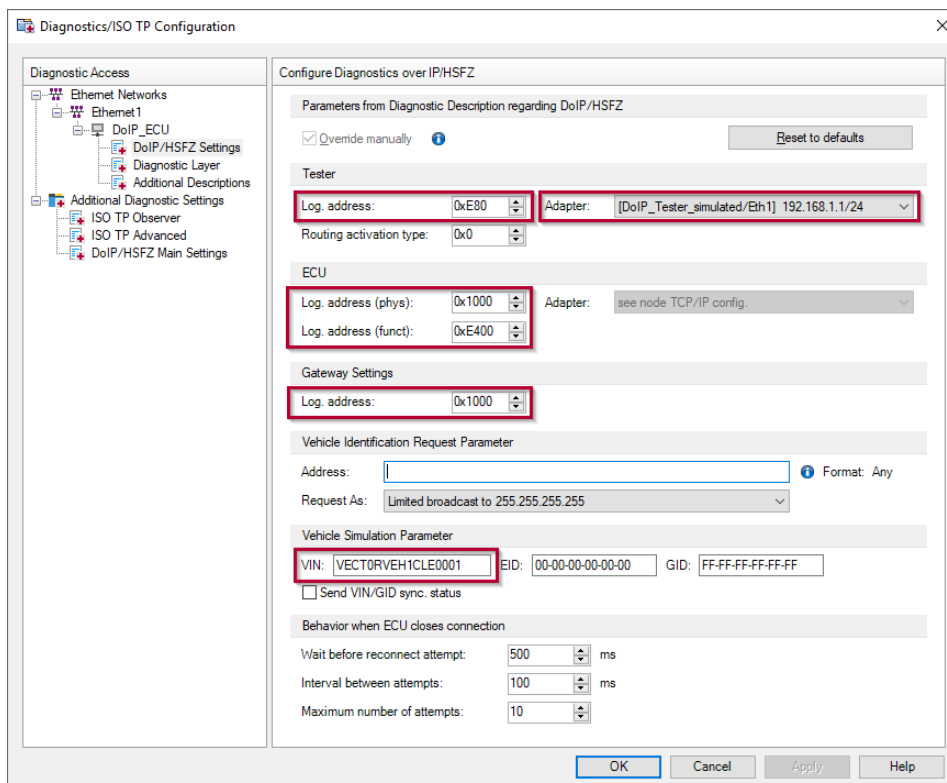
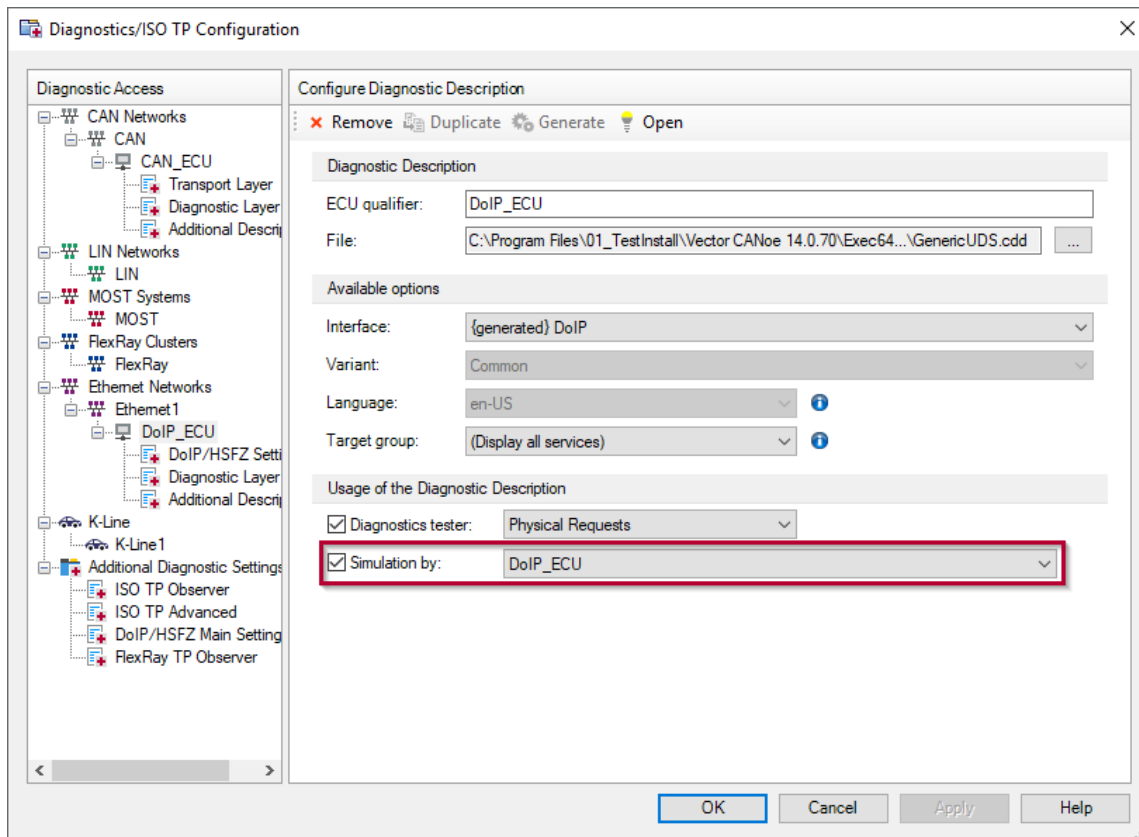

Figure 10: Important settings in the Diagnostics/ISO TP configuration dialog
Figure 20: Simulating a DoIP ECU
3. set the DoIP logical addresses of tester, ECU and Gateway (Figure 10).
If CANoe is used for both, the diagnostic tester and the ECU simulation, you can use the same diagnostic description both for the tester and the ECU. If you did not already configure the diagnostic description, you need to add it first. Activate the check box “Simulation by”, select the network node implementing the diagnostics simulation for this ECU (Figure 20) and enter the correct logical address for this ECU (Figure 10). Note that the network node name changes if you assign a CAPL file to a network node without CAPL file or if you re-assign a different CAPL file to it. In this case, you also need to re-assign the (renamed) network node here.